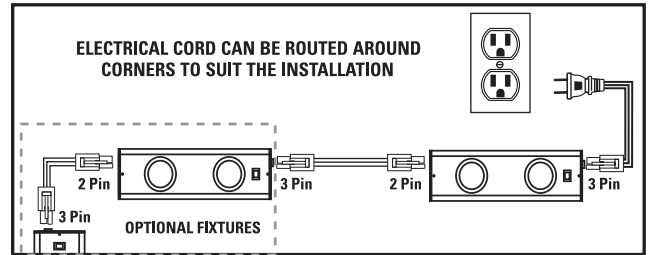

FIG. 1
Carefully plan out your installation prior to actually securing your Halogen Light Bar to the mounting surface making sure that your 5 ft. line cord will reach the nearest electrical outlet. The line cord is capable of handling up to 8 Halogen Light Bars (FIG. 1).
1. Locate positions where Halogen bars should be mounted, keeping in mind that the linking cords can handle a maximum of 18" between bars (FIG. 1).
5. Your line cord has a molded plastic cap on one end, and a link connector at the other end. The link connector plugs into your halogen bar. The second cord provided is a linking cord with link connectors on both ends. This is used to connect your halogen bar to the next bar in your chain. Link adjacent only. See FIG 1 to see how 2 pin and 3 pin plugs are intended to be used.
2. Once installed, attach the linking cord between the last Light Bar (previously installed) and the new one. See FIG. 1 below to see how the 2 pin and 3 pin plugs are intended to be used.